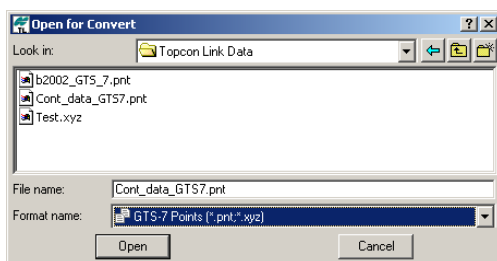

Figure 3-3. Open for Convert
3. Click **Browse** (“...”) and select the file for conversion in the *Open for convert* dialog box (Figure 3-3).